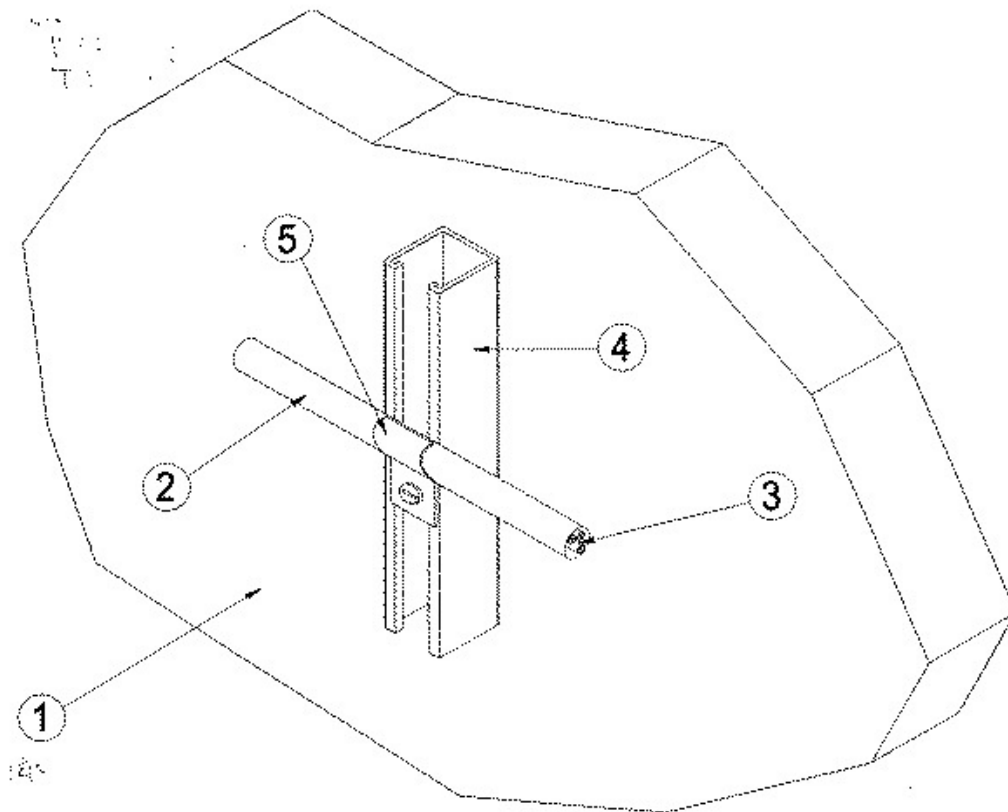

Fig. 1
4. **Supports** — (Figure 1) - Min 12 gauge, by 1-1/2 in. wide or 1-5/8 in wide, painted or unpainted, slotted steel channels with hemmed flange edges. Channel bottom with or without holes. Lengths of slotted steel channels 5 ft and less shall be secured to the wall or floor with a min of two 1/4 in. diameter (or larger) by 2-1/4 in. min long concrete screws, or 1/4 in. diameter (or larger) by 1-3/4 in. long min steel masonry anchors. One screw or anchor to be located at each end of the slotted steel channel. Lengths of slotted steel channel in excess of 5 ft require a min of three screws or anchors, one at each end of the channel and one centrally located within the length of the channel. The supports shall be spaced a maximum of 5 ft. OC. When installing cable(s) in vertical runs, the maximum distance of cable within EMT shall be 37 ft. between terminating points.